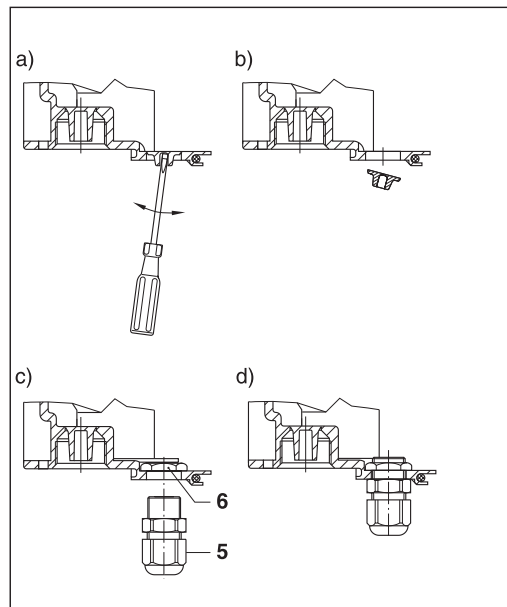

Fig. 3: Front row
- Front row (fig. 3): screwdriver DIN 5262-B, size 0 (Ø 3.0 mm)